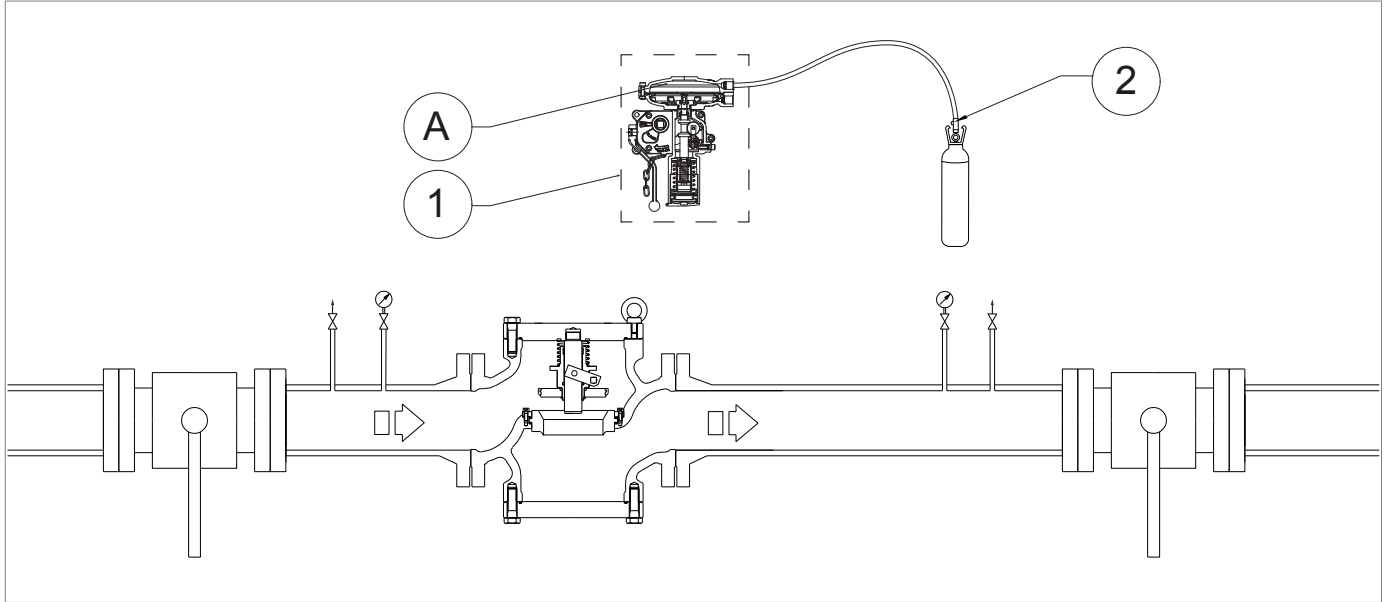

Fig. 8.11. Pressurisation with external pressure source
1	<p>! NOTICE!</p> <p>Check the pressure referring to the downstream pressure gauge (Fig. 8.11, ref. 5).</p> <p>If the slam-shut valve:</p> <ul style="list-style-type: none"> trips before the expected pressure value: screw in (clockwise) the adjustment ring nut (13) so as to further compress the spring (11); does not trip at the expected pressure value: unscrew (anti-clockwise) the adjustment ring nut (13) so as to relieve the spring (11).
2	Decrease the pressure in the pressure switch head using the drain cock (3) of the external source or the drain cock (Fig. 8.11, ref. 6)
1	Partially open the bleed cock (Fig. 8.11, ref. 6) and keep it open for the next steps.
2	<p>Decrease the downstream pressure to the minimum required slam-shut valve pressure.</p> <div style="border: 1px solid blue; padding: 5px;"> <p>! NOTICE!</p> <p>Check the pressure referring to the downstream pressure gauge (Fig. 8.11, ref. 5).</p> <p>If the slam-shut valve:</p> <ul style="list-style-type: none"> • trips before the expected pressure value: unscrew (anti-clockwise) the adjustment ring nut (15) so as to relieve the spring (17); • does not trip before the expected pressure value, screw in (clockwise) the adjustment ring nut (15) so as to further compress the spring (17). </div>
3	Close the bleed cock (Fig. 8.11, ref. 6).
1	<p>NOTICE!</p> <p>Check the pressure referring to the pressure gauge (Fig. 8.11 ref. 5) downstream of the main regulator.</p> <p>If the slam-shut valve:</p> <ul style="list-style-type: none"> • trips before the expected pressure value: screw in (clockwise) the adjustment ring nut (13) so as to further compress the spring (11); • does not trip at the expected pressure value: unscrew (anti-clockwise) the adjustment ring nut (13) so as to relieve the spring (11).
2	By opening the vent (Fig. 8.11, ref. 6), decrease the pressure in the downstream section to the calibration value of the main regulator.
3	Close the air vent valve (Fig. 8.11, ref. 6).
2	<p>Decrease the downstream pressure to the minimum required slam-shut valve pressure.</p> <div style="border: 1px solid black; padding: 5px;"> <p>! NOTICE!</p> <p>Check the pressure referring to the downstream pressure gauge (Fig. 8.11, ref. 5).</p> <p>If the slam-shut valve:</p> <ul style="list-style-type: none"> • trips before the expected pressure value: unscrew (anti-clockwise) the adjustment ring nut (15) so as to relieve the spring (17); • does not trip before the expected pressure value, screw in (clockwise) the adjustment ring nut (15) so as to further compress the spring (17). </div>